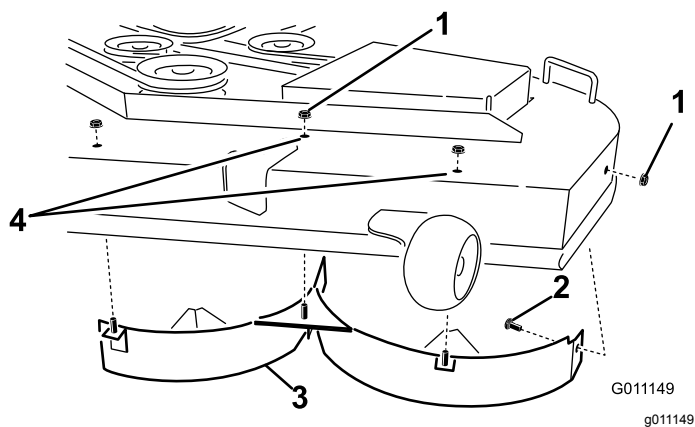

Figure 31
4. Remove the 2 locknuts (5/16 inch) secured to the welded posts of the left baffle on the top of the mower deck at the center and left of center positions (Figure 31).
6. Remove the left baffle from the mower deck as shown in Figure 31.